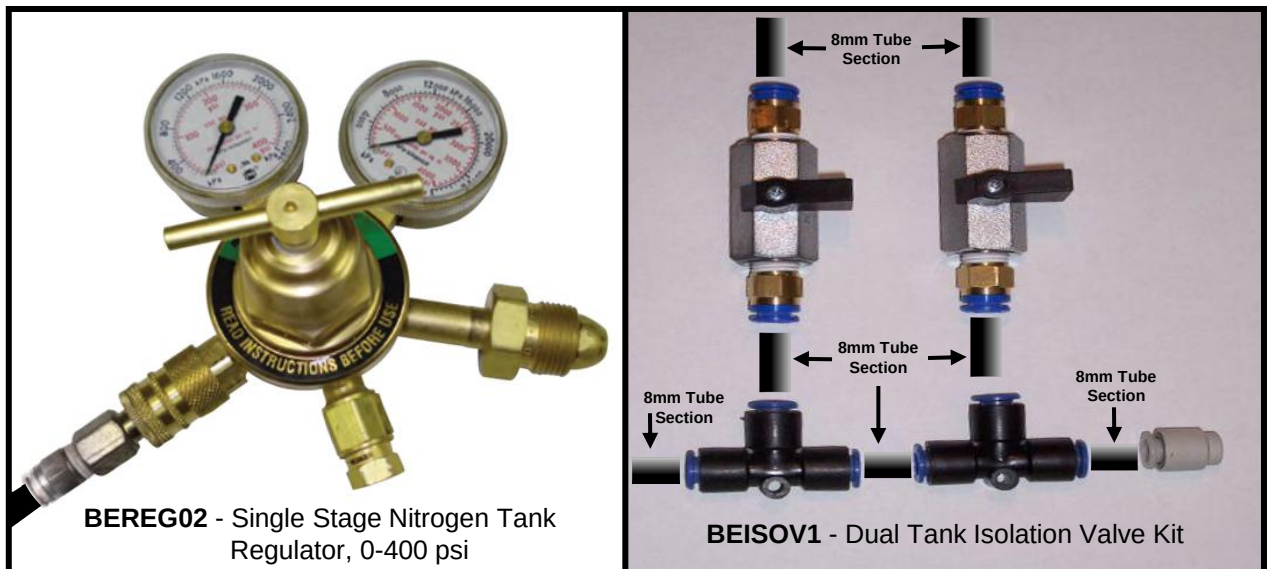

Figure 30
13.1 If the Fiber Bundle blowing distance will exceed the normal capacity of one (1) gas Tank, two (2) Tanks may be connected together to Double the Available Volume of Air. The "Installer Provided" equipment requirement; two (2) gas Tanks, two (2) Pressure Regulators (BEREG02), and a Dual-Tank Isolation Valve Kit (BEISOV1). See Fig. 30.
13.7 Push-fit the "Installer Provided" lengths of 8mm tubing between Pressure Regulators #1 and #2, Tube Adapters-(8mm) and the Tee-Couplers supplied in the Dual Tank Isolation Valve Kit. (3' - 4' length suggested.) See Fig. 30 & 31
13.8 Push-fit the “Installer Provided” length of 8mm tube between the Tee-Couplers supplied in Dual Tank Isolation Valve Kit. (1’-2’ length suggested.) **See Fig. 30 & 31**
13.9 Push-fit the “Installer Provided” length of 8mm tube between Tank #2 Tee-Coupler and the Tube Cap supplied in the Dual-Tank Isolation Valve Kit. (3”- 4” suggested.) **See Fig. 30 & 31**
13.10 Push-fit the “Installer Provided” length of 8mm tube between Tank #1 Tee Coupler and the First Tee Coupler at the Blowing Head. (3’-4’ length suggested.) **See Fig. 30 & 31**